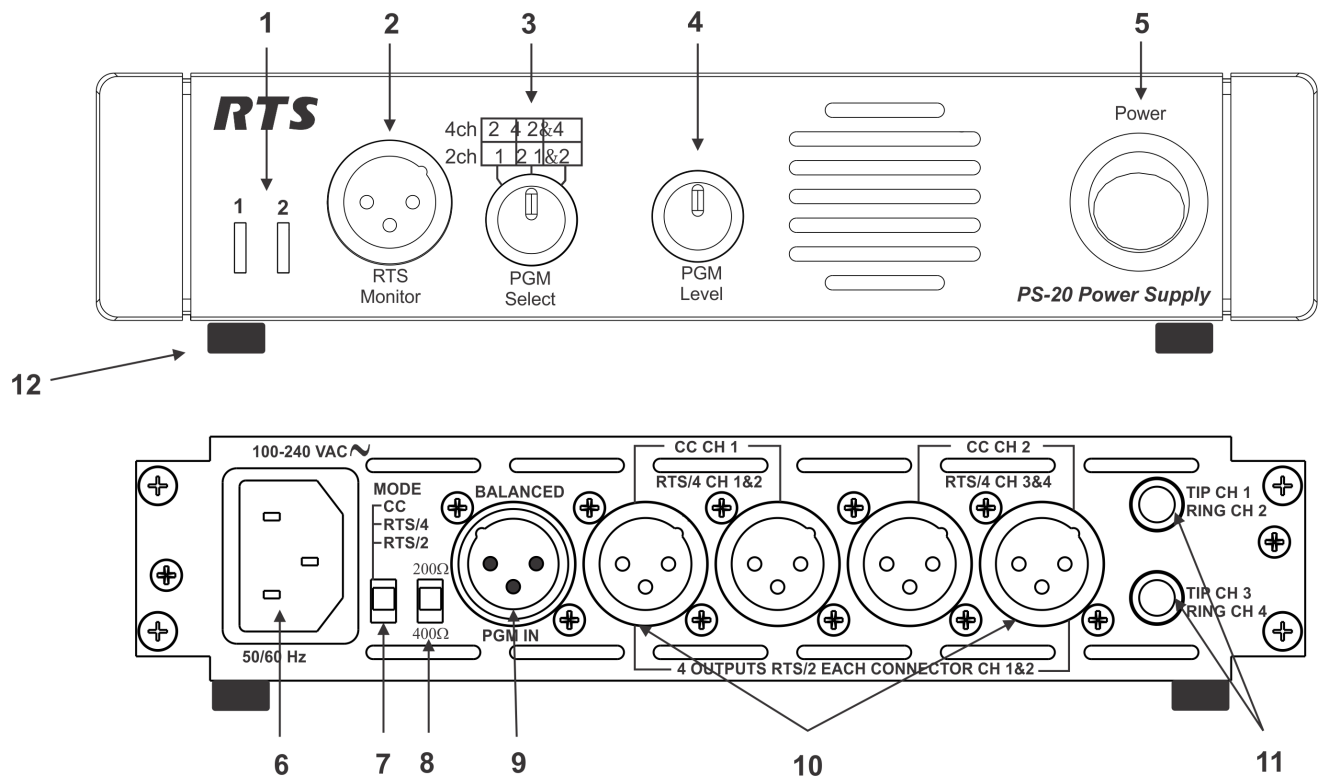

FIGURE 1. PS-20 Reference View
The PS-20 has a 3-pin XLR (male) connector on the front of the system, where a user can connect to the power supply and monitor activity on CH 1 or CH 2 (see Figure 1 on page 9). In Clear-Com mode, only channel one (1) is heard. A user station or beltpack is required to use a headset with this feature.